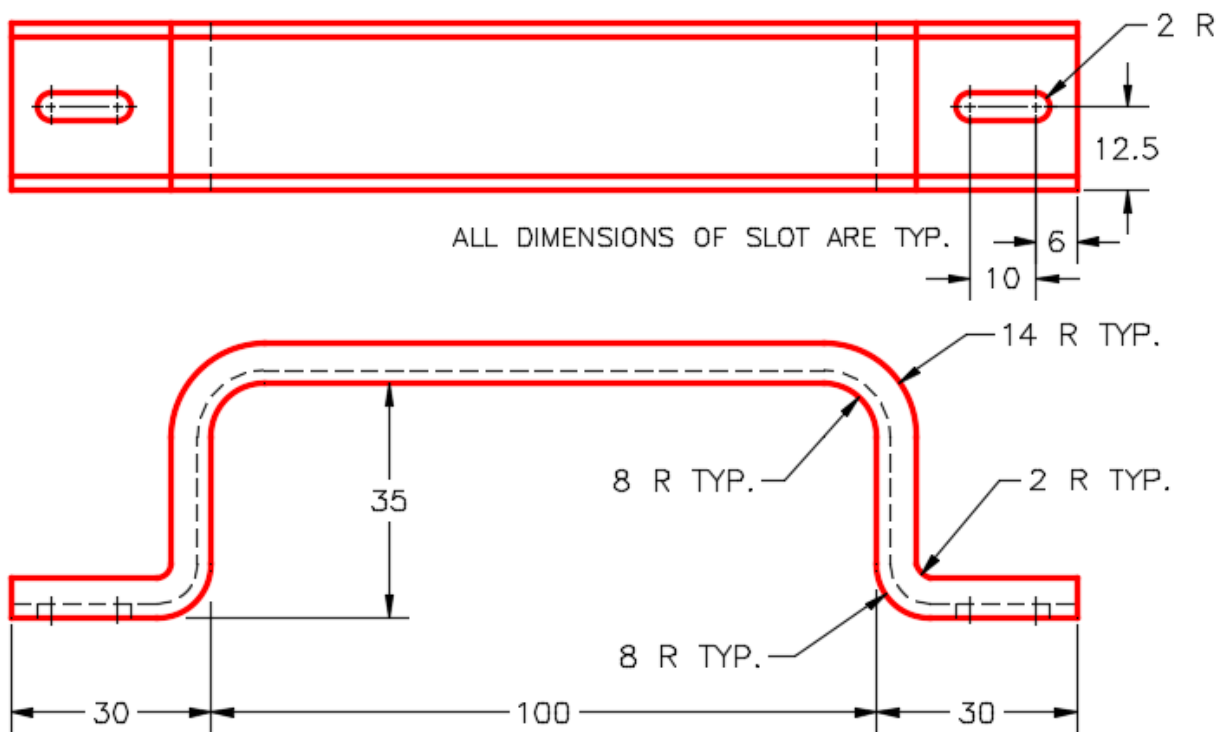

Figure Step 1A
Step 1 On layer: Profile, draw the profile as a closed pline and on layer: Path, draw the path as a single pline. (Figure Step 1A and 1B)